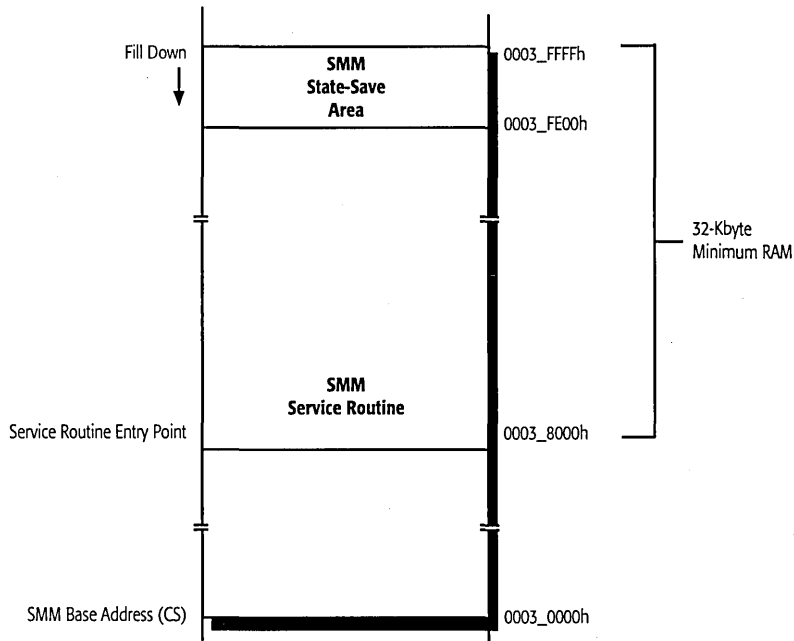

Figure 1. SMM Memory
Figure 1 shows the default map of the SMM memory area. It consists of a 64-Kbyte area, between 0003_0000h and 0003_FFFFh, of which the top 32 Kbytes (0003_8000h to 0003_FFFFh) must be populated with RAM. The default code-segment (CS) base address for the area—called the SMM base address—is at 0003_0000h. The top 512 bytes (0003_FE00h to 0003_FFFFh) contain a fill-down SMM state-save area. The default entry point for the SMM service routine is 0003_8000h.